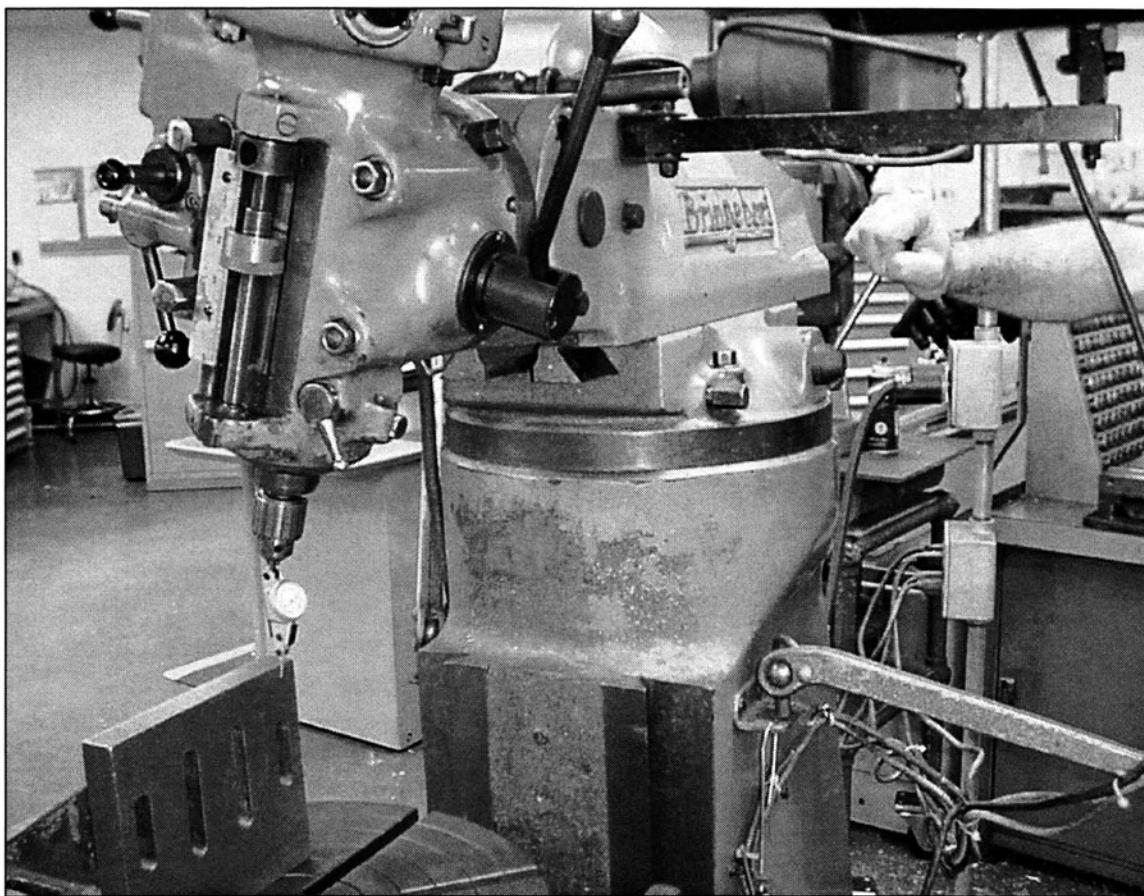

FIGURE 2-10 The ram of a mill must be indicated parallel to the "Y" axis when the head is tilted to avoid machining skewed holes and features.
50. Indicate the ram of a milling machine parallel to the "Y" axis before machining with the head tilted. (See Fig. 2-10)